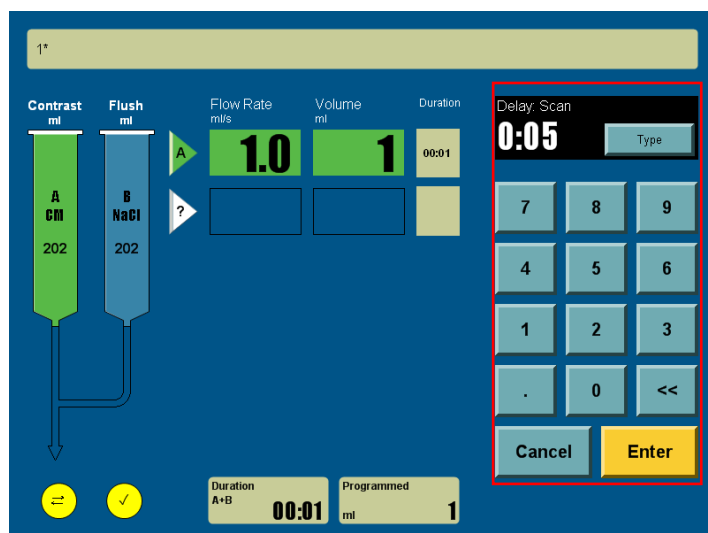

Figure 37
**Scan Delay:** The scan delay time will start counting after the injection begins, see Figure 37. The time of the Scan Delay will be displayed in the time frame in which the time length gradually increases to the set value in one second increment. When the set value is reached, a prompt tone will be heard.